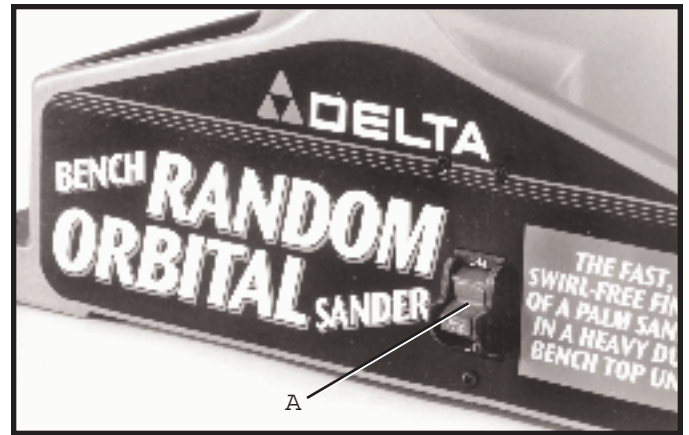

Fig. 21
The on/off switch (A) Fig. 21, is located on the sander base. To turn the sander ON move the switch to the up position. To turn the sander OFF move the switch to the down position.